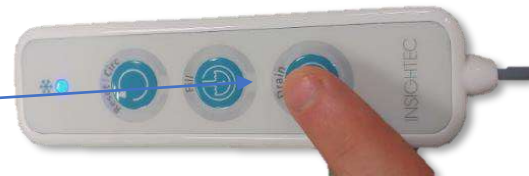

Figure 12-15: Drain
Step22. Drain the water from the transducer using the screen or the remote (**Figure 12-15**).